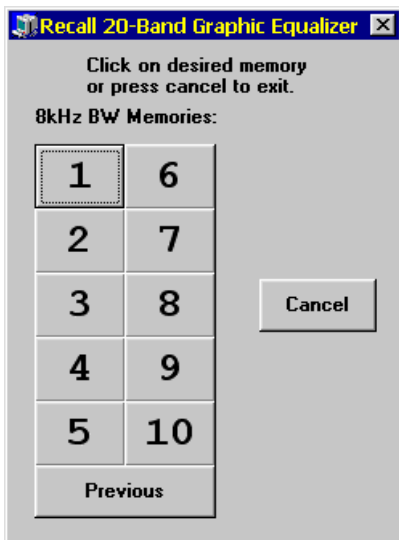

Figure 3-14 Tutorial Recall 20-Band Graphic Equalizer Window
40. Click on the **Recall** button to bring up the Recall 20-Band Graphic Equalizer window. The window in Figure 3-14 will appear.